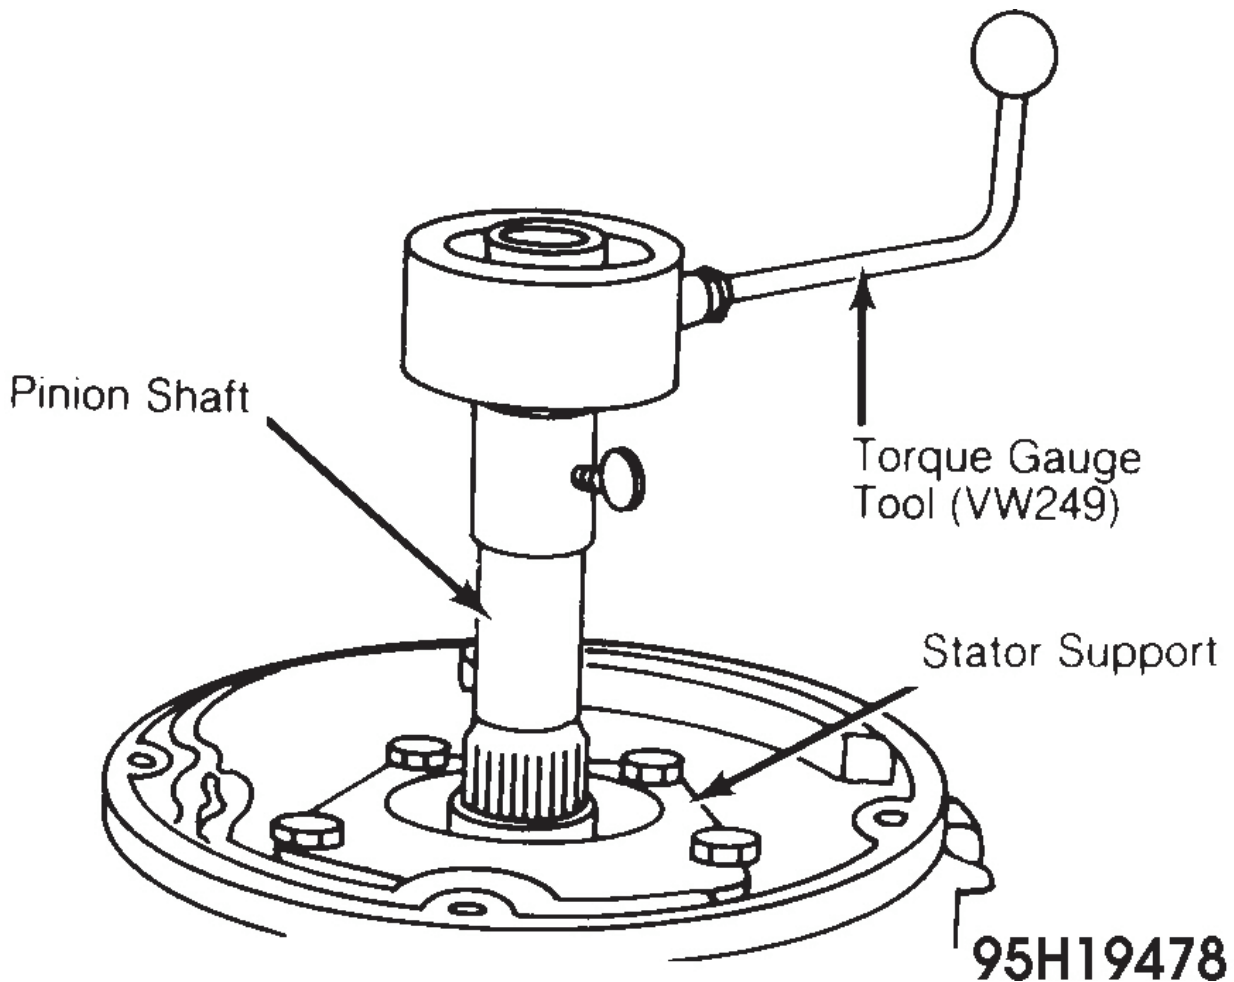

Fig. 33: Checking Pinion Shaft Turning Torque
8. Position pinion assembly in final drive case. Install stator support and tighten mount bolts. Install torque gauge (VW24Q) and rapidly turn 15-20 times to settle bearings. See **Fig. 33**. Turn shaft with torque gauge and record turning torque reading for future reference.
1. If intermediate gear and bearings were replaced, coat bearings, with gear oil and install new "O" rings. Install bearings in intermediate gear. Position gear assembly into final drive case. Insert intermediate shaft and tighten shaft slightly. Attach torque gauge to pinion shaft. Rotate shaft and note preload reading on gauge. See **Fig. 33**.